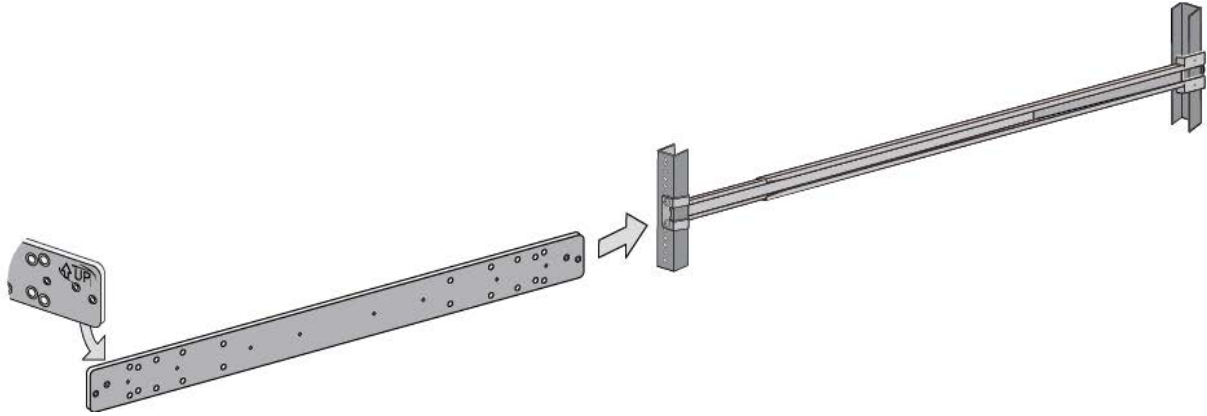

Figure 107. Inserting an Inner Rail into an Outer Rail
1. Slide one of the inner rails into an outer rail. Be sure that the UP arrow on the inner rail is pointing up. Refer to Figure 107 on page 186.